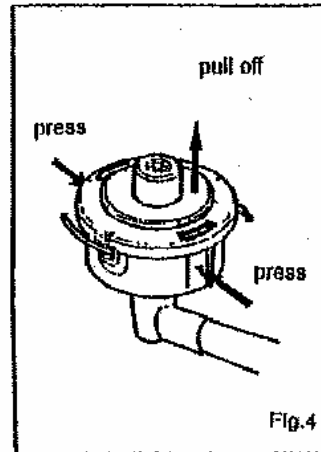

Fig.4
1. Remove the cover from the housing by pressing the two latches located opposite each other on the housing. (fig.4)